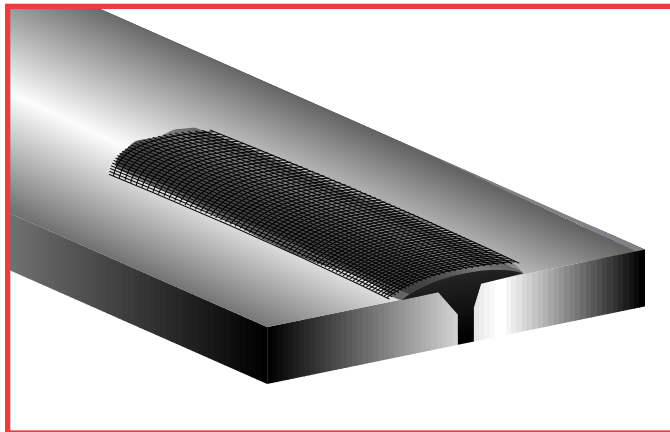

Figure 12. Reinforce the repair by applying tape over the epoxy.
5. **Using reinforcing mesh**, such as fiberglass or wire screening, lay a strip of the reinforcement material over the application and imbed the tape into the epoxy. (See figure 12)